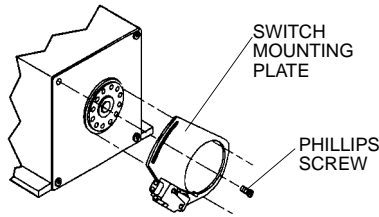

FIGURE 3 - SWITCH MOUNTING PLATE LOCATION
7. Place the switch mounting plate over the actuator drive spindle and fasten it in place with the actuator corner screw from Step 6 (See Fig. 3). Center the screw in the switch mounting plate slot.